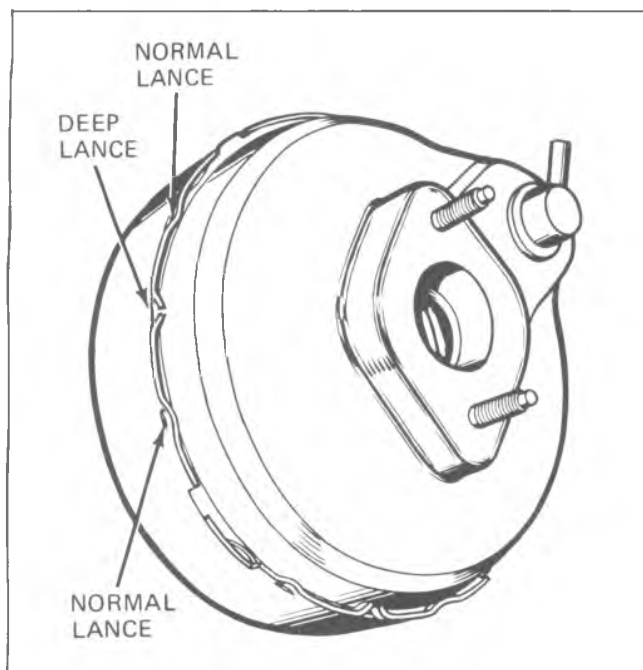

Fig. 5-3B--Lances in Rear Housing
9. The edge of the rear housing contains twelve (12) lances. Four (4) of these lances (one in each quadrant) are deeper than the other lances. The metal that forms the four (4) deep lances must be partially straightened so that the lances will clear the cutouts in the front housing. If the metal tabs that form the deep lances break during straightening, the housing must be replaced (fig. 5-3B).